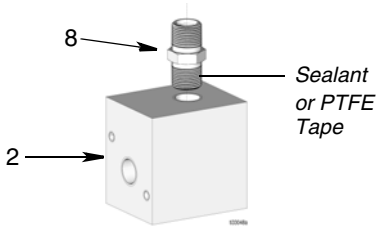

FIG. 8
1. Wrap threads of pipe nipple (8) with PTFE tape or thread sealant as shown in FIG. 8. Install pipe nipple (8) in opening of manifold (2). Tighten securely. Refer to FIG. 8 to determine the correct installation position.